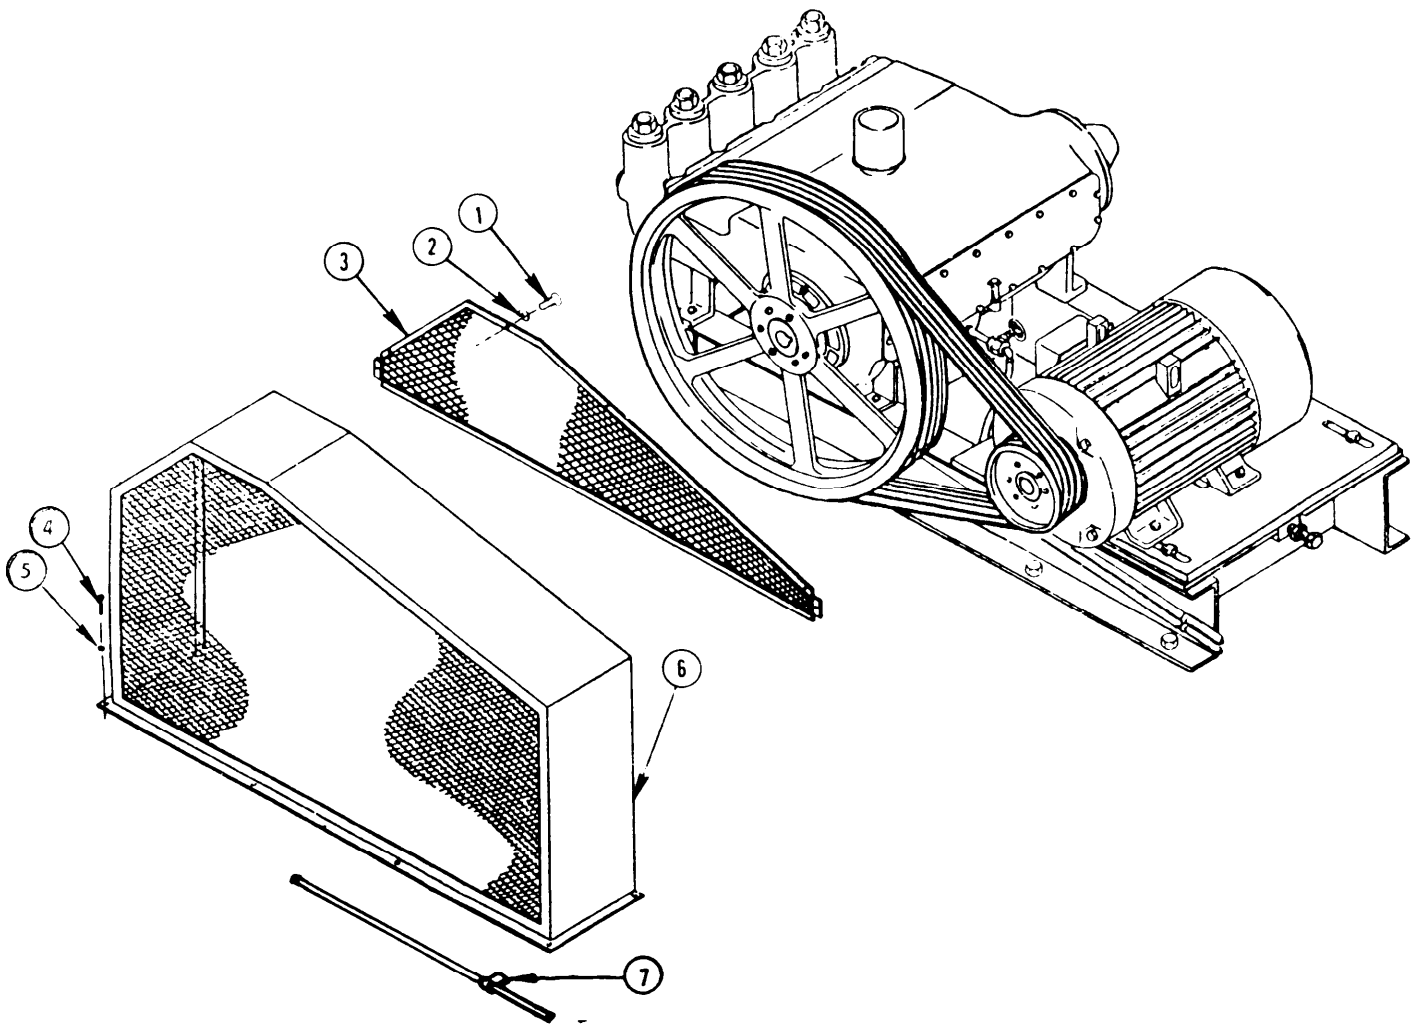

Figure 2-90. Belt Shroud
b. Removal. (Figure 2-90)
- (1) Remove four screws (1) and four lockwashers (2) from belt shroud (6) and belt guard (3). Remove belt guard (3).
- (2) Remove six bolts (4) and six lockwashers (5) from ROWPU frame, belt shroud (6), and two clamps (7).
- (3) Remove belt shroud (6).
- (1) Tack weld any places where screen has come loose from belt shroud or guard frame.
- (2) Hammer out small dents in frame or screen.
- (3) Spot paint where needed.
- (4) Replace damaged nuts, bolts, screws, and washers.
- (5) Replace damaged or unrepairable belt guard or belt shroud.
- (6) Send unrepairable belt guard and/or belt shroud to Direct Support Maintenance.
f. Installation. (Figure 2-90)
- (1) Position belt shroud (6) on ROWPU frame.
- (2) Install six bolts (4), six lockwashers (5), and two clamps (7) through belt shroud (6) and ROWPU frame.